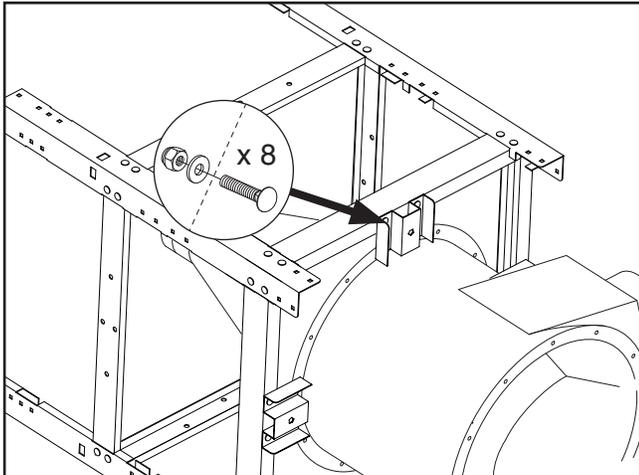

Figure 10. Collector assembly fastened to stand.
12. With help of another person, lay stand assembly on its side on cardboard and slide collector assembly into stand assembly, as shown in **Figure 10**.
13. Fasten collector assembly to stand with (8) $\frac{5}{16}$ "-18 x $\frac{3}{4}$ " carriage bolts, $\frac{5}{16}$ " flat washers, and $\frac{5}{16}$ "-18 hex nuts, as shown in **Figure 10**.